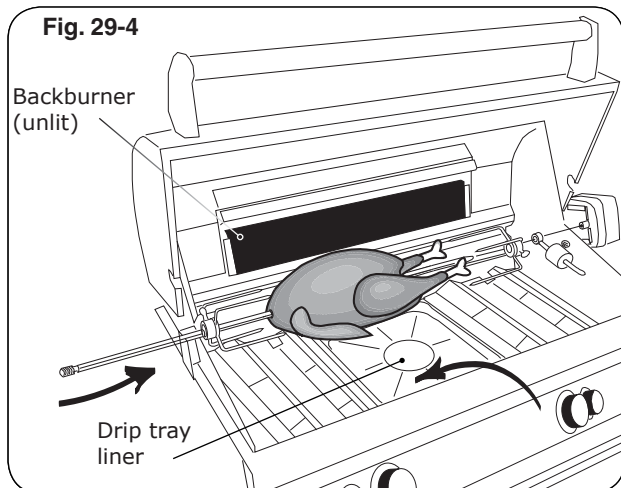

Fig. 29-4
4. Slide the left meat holder onto the rod (and tighten), the meat onto the rod and into the holder, followed by the right meat holder onto the rod and into the meat as shown in Fig. 29-4. Tighten the right meat holder. Be sure the meat is centered and balanced as well as possible.
9. To keep drippings off the burners and simplify cleanup, place Fire Magic® drip tray liners under the meat, if desired (Fig. 29-4).